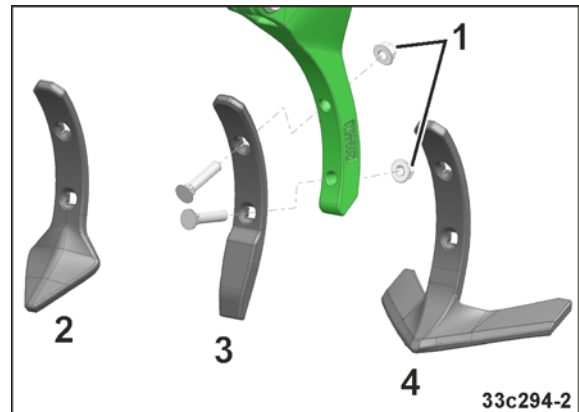

Fig. 184
1. Loosen the fastening nuts (Fig. 184/1).
3. Tighten the fastening nuts (Fig. 184/1).
Wing coulter (Fig. 184/4)	large
Heart-shaped coulter (Fig. 184/2)	↓
Narrow coulter (Fig. 184/3)	Small